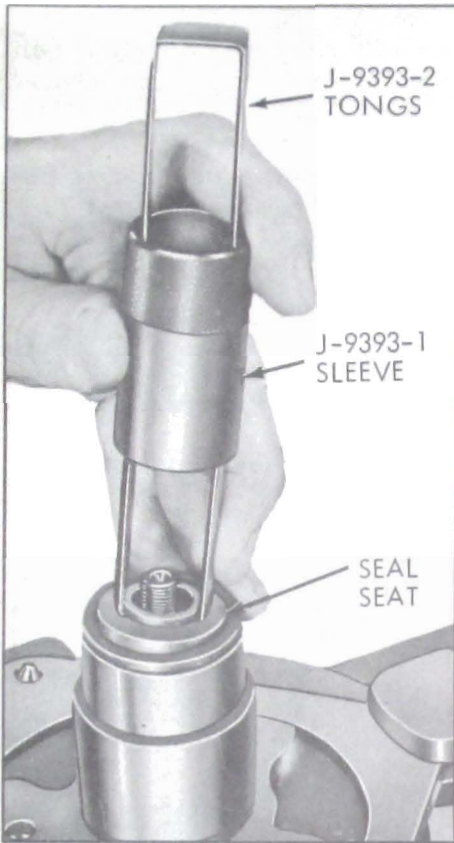

Figure 11-54—Removing Shaft Seal Seal Seat
3. Remove shaft seal seat, using J-9393-1 and 2 to grasp flange on seal seat. See Figure 11-54. Pull straight out at end of tool to remove seal seat.
3. Position seal seat on shaft and use sleeve J-9393-1 to push seat down inside front head. See Figure 11-54.